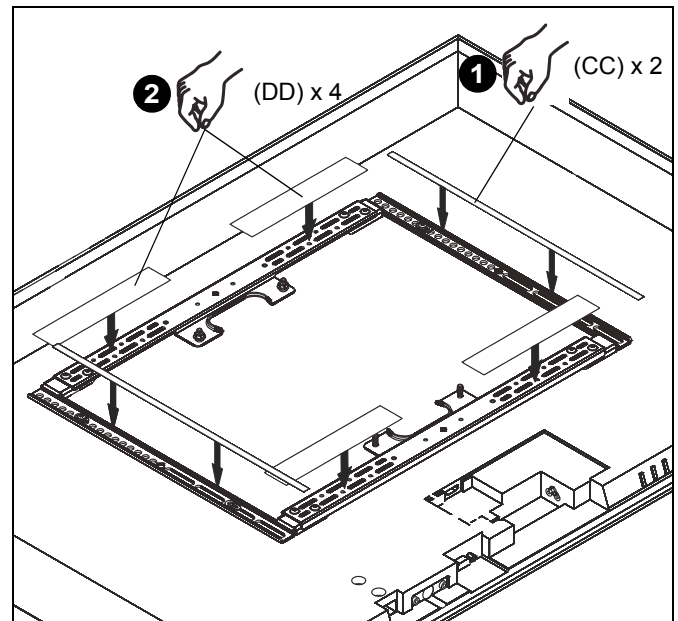

Figure 27
1. Use two long adhesive strips (CC) to cover vertical uprights. (See Figure 27)
2. Use four short adhesive strips (DD) to cover horizontal upright supports. (See Figure 27)